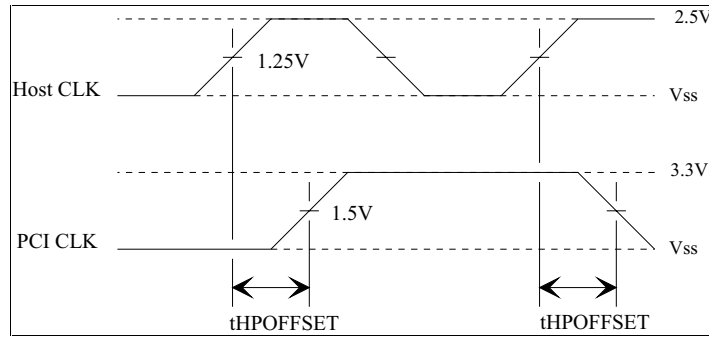

Figure 3-2 Host CLK to PCI CLK Offset
- The Host CLK must always lead the PCI CLK as shown in Figure 3-2. This must be guaranteed by design under the test load conditions.